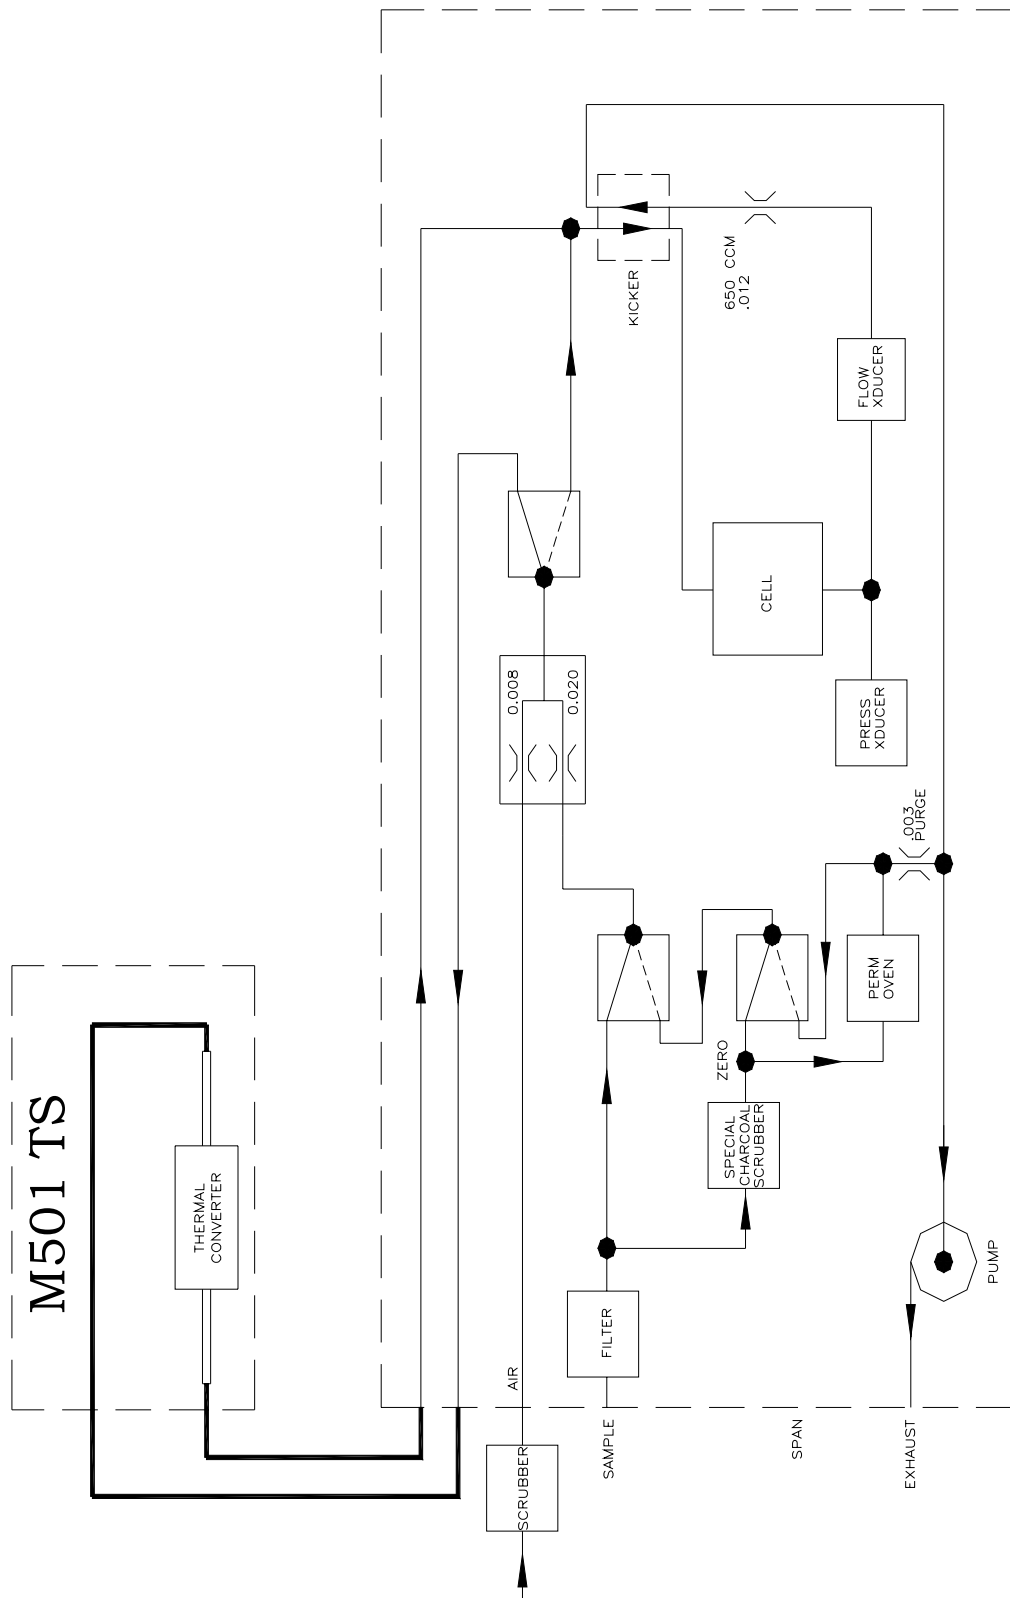

Figure 2.2 – M108A with IZS/Permeation Tube Option
- An Internal Zero/Span (IZS) Option with H2S permeation tubeThe IZS option uses sample gas (passed through a special, high-performance charcoal scrubber) to dilute H2S from the perm tube for span calibration checks. See Figure 2.2 for the pneumatic diagram